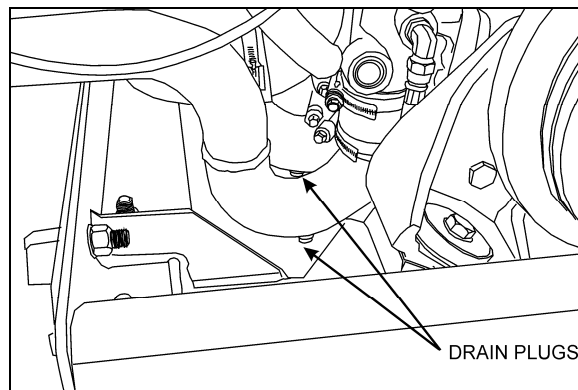

FIGURE 15: WATER PUMP DRAIN PLUG
5. Unscrew the water pump housing inlet line drain plug (Fig. 15) plus the transmission oil cooler delivery line drain plug. Drain the coolant into an approved container.